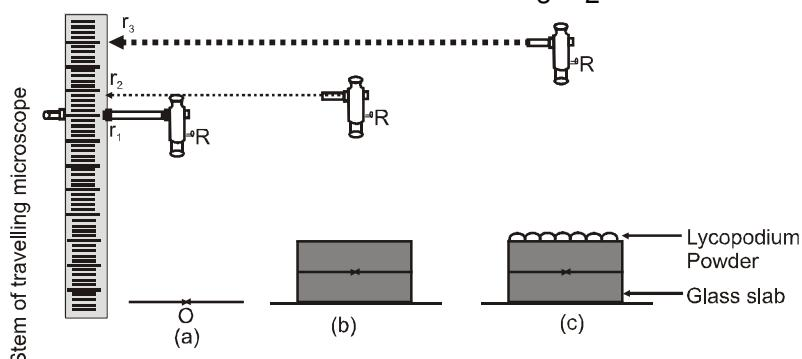

Fig. 17 Travelling microscope taking reading (a) at the cross mark (b) at the cross mark with slab placed on it (c) at powder sprinkled on the top of the slab
For accurate measurements of depths, a travelling microscope [Fig. 17(a)] is used.
- 5. Move the microscope very gently. Using the screw, focus the eye piece on cross mark and bring the cross in focus such that the cross wires, coincides with the marked cross on the paper. Note the reading of the microscope as  $r_1$  [Fig. 17(a)]
- 7. Move the microscope gradually and gently upward to bring the cross mark in focus and on cross of cross wires. Record the reading as  $r_2$  [Fig. 17(b)]
- 8. Sprinkle some fine lycopodium powder on the glass slab and move the microscope upward till the powder particle come into focus. Record the reading on the scale as  $r_3$  [Fig 17(c)]